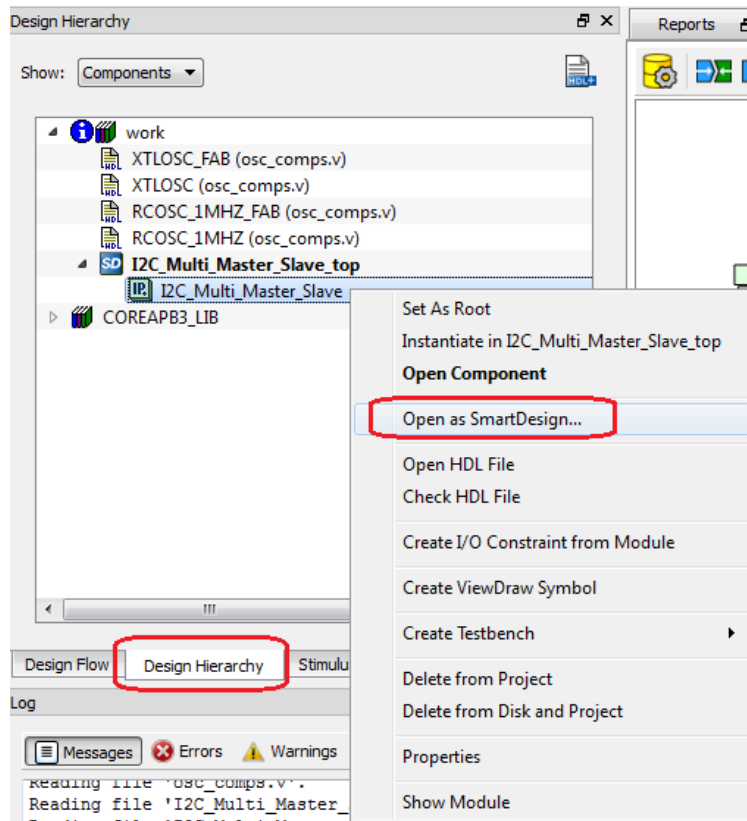

Figure 25 • System Builder Opens as SmartDesign
1. Expand **I2C_Multi_Master_Slave_top** in the **Design Hierarchy** tab as shown in Figure 25. Right-click **I2C_Multi_Master_Slave** and then click **Open as SmartDesign**.